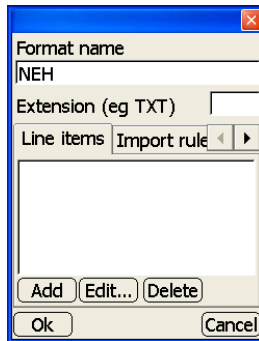

Figure 3-14. Conversion Format Parameters Dialog Box
- Conversion format – select the conversion format from the drop-down list. See Figure 3-14 on page 3-10 and “Conversion Formats” on page 3-9 for details on creating formats.
- New – on the **Conversion formats** dialog box (Figure 3-14 on page 3-10), press **New** to enter a conversion format.